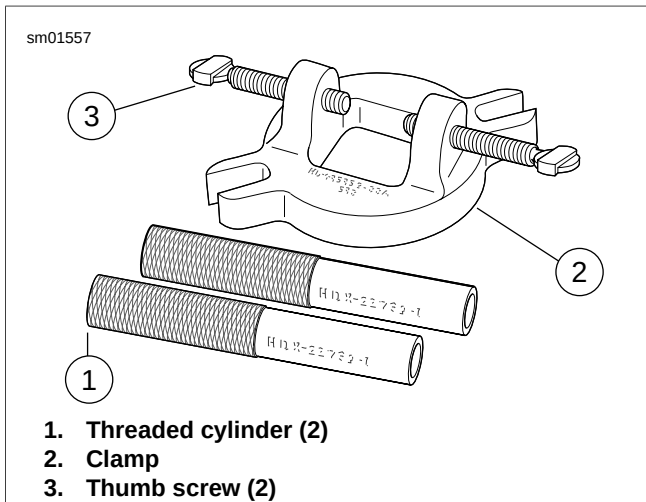
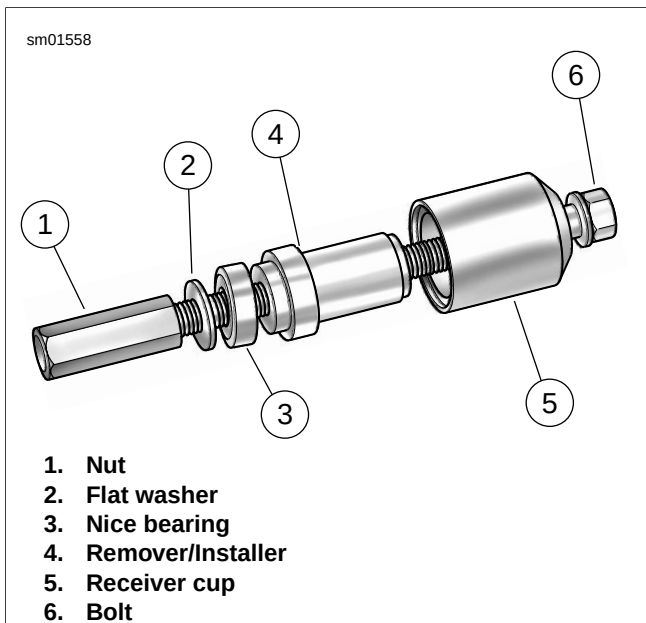
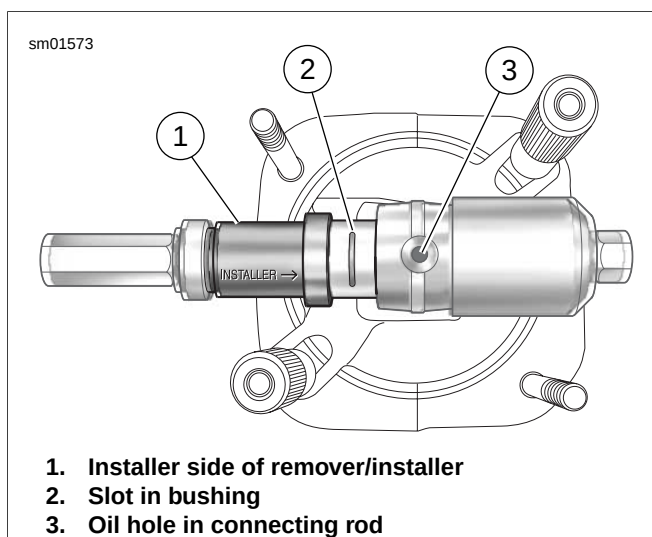
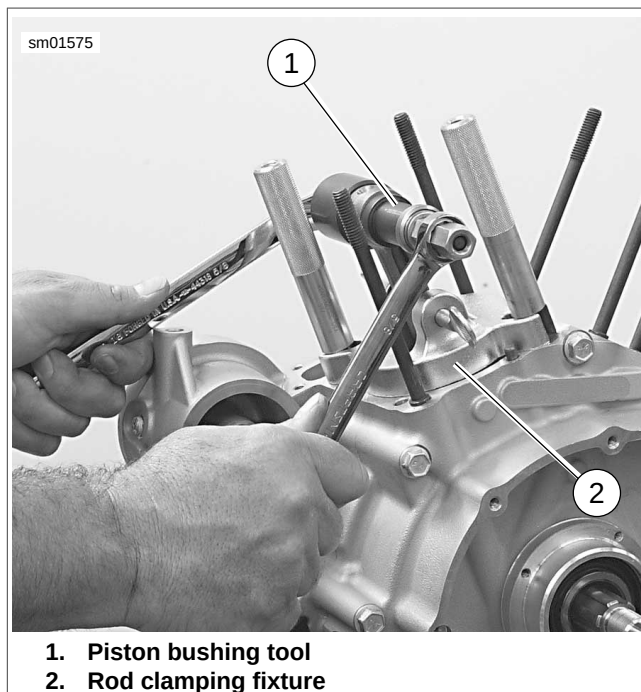

Figure 3-146. Connecting Rod Clamping Tool (Part No. HD-95952-33C)
Figure 3-147. Connecting Rod Bushing Remover/Installer (Part No. HD-95970-32D)
Figure 3-149. Installer Stackup
Figure 3-150. Installing New Piston Pin Bushing
- See Figure 3-146. Obtain the CONNECTING ROD CLAMPING TOOL and install as follows:
- Slide clamp (2) over connecting rod so that slots engage cylinder head studs. Exercise caution to avoid scratching or bending studs.
- With the knurled side up, screw threaded cylinders (1) onto studs to secure position of clamp.
- Alternately turn each clamp thumbscrew (3) a few turns to gradually fix position of connecting rod. Turning only one thumbscrew will move rod off-center, while tightening second thumbscrew can cause rod to flex or bend.
- See Figure 3-147. Obtain the CONNECTING ROD BUSHING REMOVER/INSTALLER (Part No. HD-95970-32D).
- Sparingly apply graphite lubricant to threads of bolt (6) to prolong service life and ensure smooth operation.
- Slide receiver cup (5) onto bolt with the closed side facing bolt head.
- b. See Figure 3-147. Slide Nice bearing (3) and flat washer (2) onto bolt (6) until they contact remover/installer (4).
- c. Thread nut (1) onto bolt until assembly is snug.
1. See Figure 3-147. Obtain the CONNECTING ROD BUSHING REMOVER/INSTALLER (Part No. HD-95970-32D).
- a. Sparingly apply graphite lubricant to threads of bolt (6) to prolong service life and ensure smooth operation.
- b. Slide receiver cup (5) onto bolt with the closed side facing bolt head.
- d. See Figure 3-149. Slide **new** bushing onto bolt. Start bushing into bore. Verify that center of slot in bushing (2) is aligned with oil hole in connecting rod (3). Also, be sure that bushing is square in bore and not cocked.
- e. Slide installer side of remover/installer (1) onto bolt until shoulder contacts bushing. The remover/installer is stamped to ensure proper orientation.
- f. See Figure 3-147. Slide Nice bearing (3) and flat washer (2) onto bolt until they contact remover/installer.
- g. Thread nut (1) onto bolt until assembly is snug.
- h. Using two box end wrenches, tighten nut on bolt until collar on remover/installer bottoms against connecting rod. See Figure 3-150.